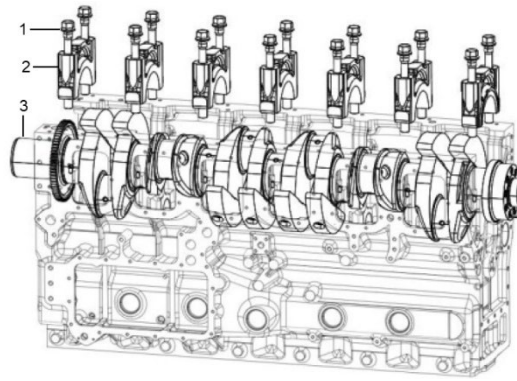

Figure 106.
6. Reinstall new main bearing and thrust plates in the main bearing caps (Figure 106, Item 2).
7. Reinstall the main bearing caps (Figure 106, Item 2).
8. Apply a light coat of clean engine oil to the bearing cap main bolts (Figure 106, Item 1).